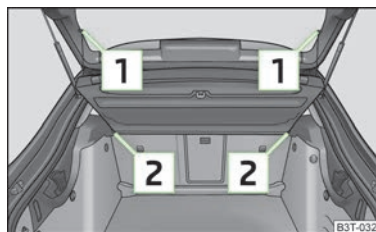

Fig. 68
- Unhook the support straps **1** » Fig. 68.